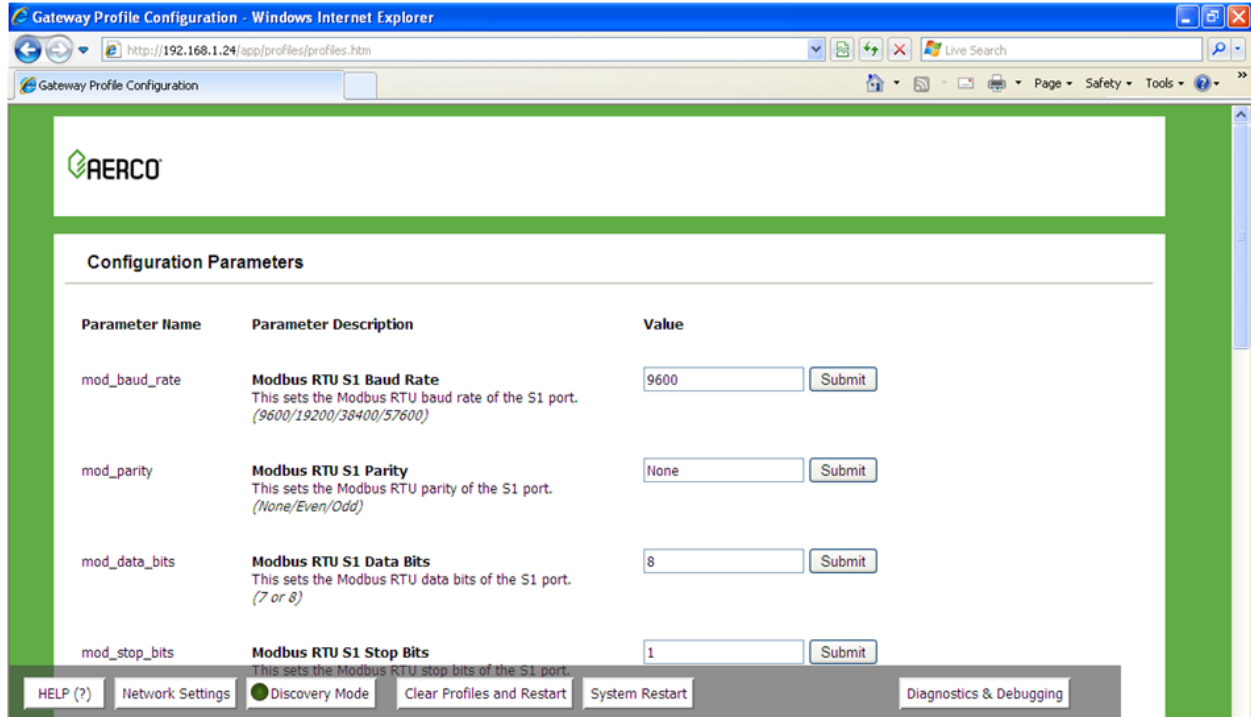

Figure 6-1: Web Configurator screen
- The Web Configurator will be displayed as your landing page (see Figure 6-1, below).